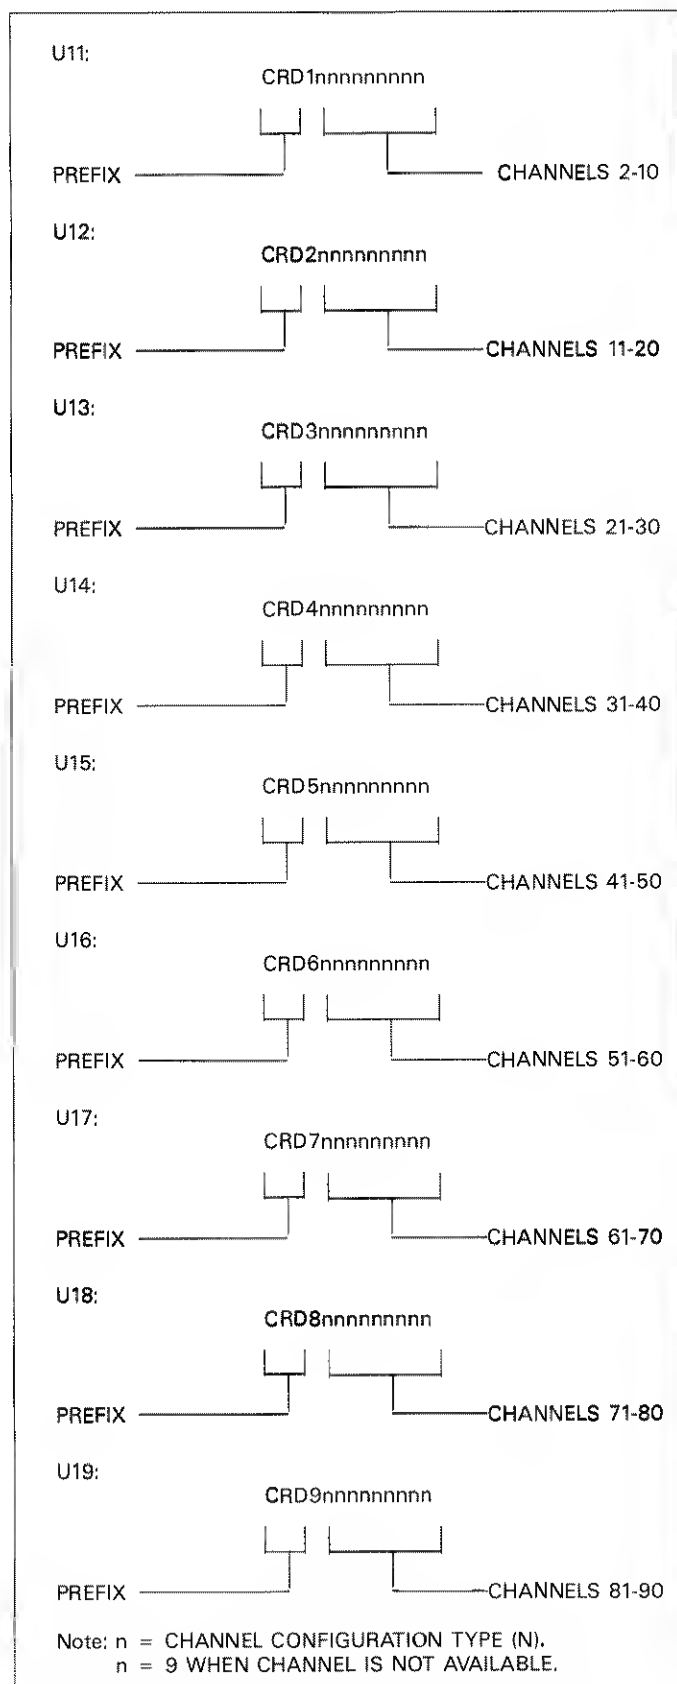

Figure 4-14. U11-U19 Channel Types
The U11 through U19 commands allows access to the channel type of each channel on that scanner card. The format for the channel types that are sent is shown in Figure 4-14. The "n" value for a channel corresponds to the Type (N) command value. "n" values of nine for the channels of a scanner card indicate that the scanner card, along with its channels, are physically unavailable.